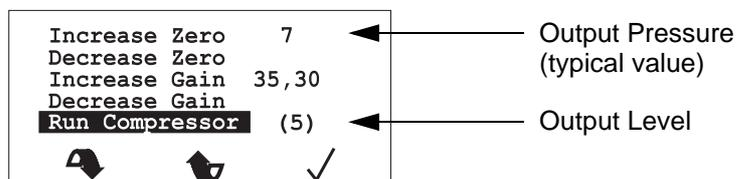

Figure 24 - LCD Display - Output Pressure
- 7.7 To start the test, scroll down the list of options to **Run Compressor**, and select it using the ✓ button. The compressor will start running at output level “5”, indicated by the (5) on the LCD display, and the **Output Pressure** shown on the LCD display should rise and then stabilize (Refer to Figure 24).